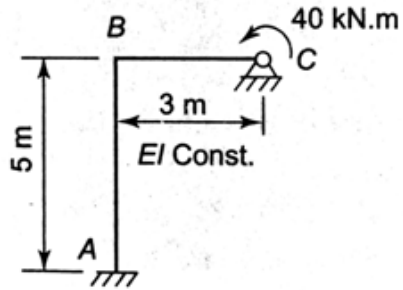

Figure 11
10. Analyse the frame shown in Figure 11 and draw the B.M.D. Consider  $EI$  as constant. [14 M]